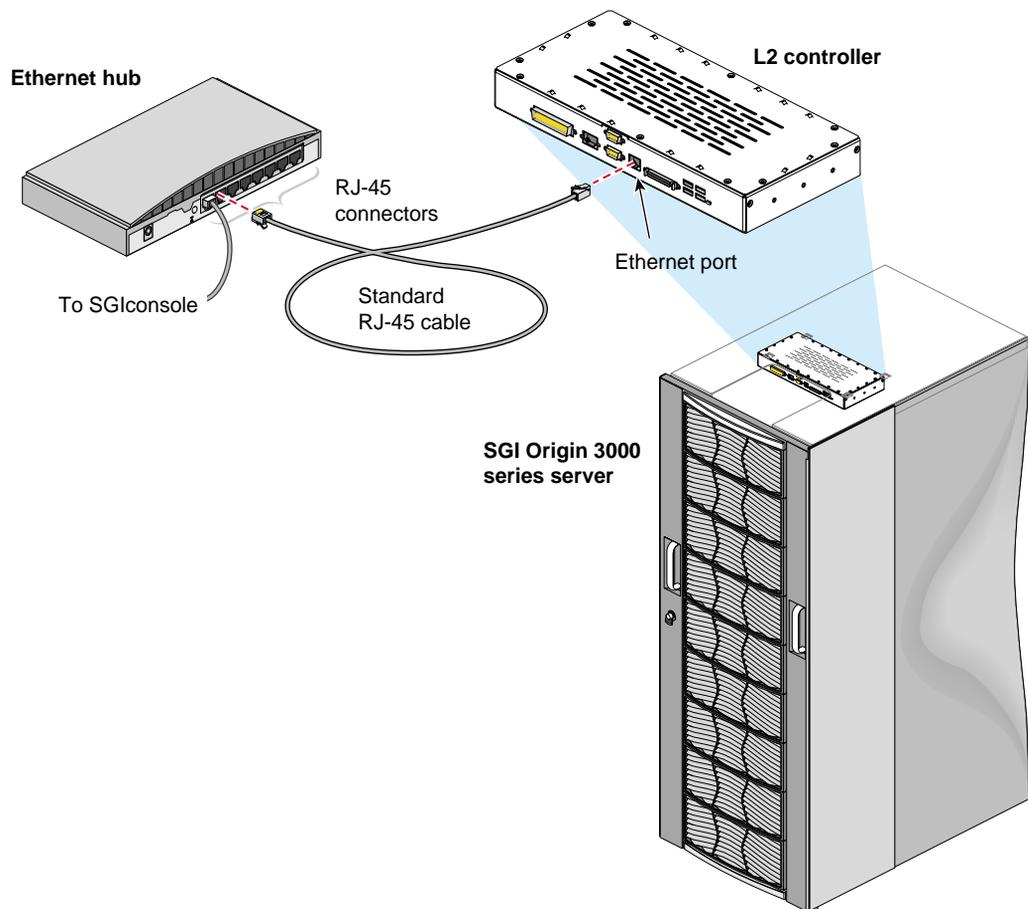

Figure 4-6 Connecting an Origin 3000 Series Server with L2 Controller to an Ethernet Hub
6. Connect one end of the standard RJ-45 cable to one of the RJ-45 jacks on the Ethernet hub. Connect the other RJ-45 connector end to the L2 controller's RJ-45 Ethernet jack. See Figure 4-6.